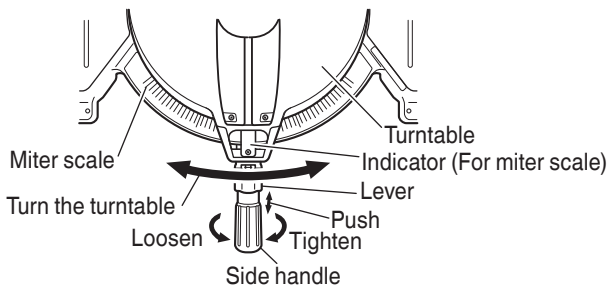

Fig. 23
- (1) Loosen the side handle and push the lever for angle stoppers. Then, adjust the turntable until the indicator aligns with desired setting on the miter scale (Fig. 23).
- (2) Re-tighten the side handle to secure the turntable in the desired position.